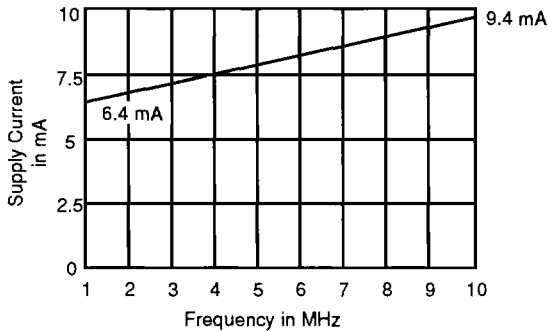
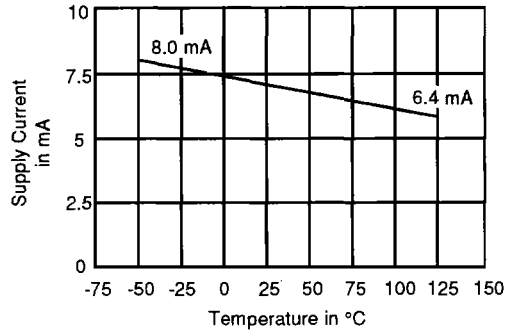

Figure 1. Typical Supply Current vs. Frequency
Figure 2. Typical Supply Current vs. Temperature
- For typical supply current values at various frequencies, refer to Figure 1. For temperature, refer to Figure 2.